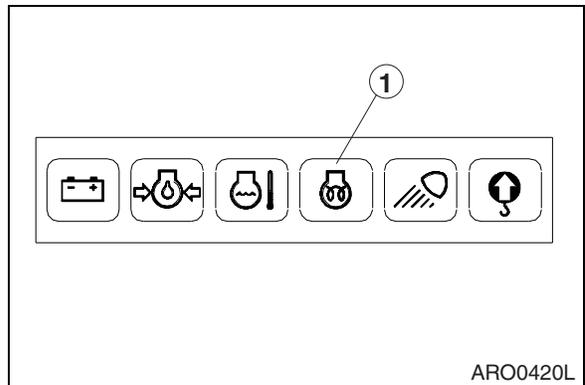

**Figure 7**
2. Set engine speed control dial slightly above "LOW IDLE" (Figure 7).